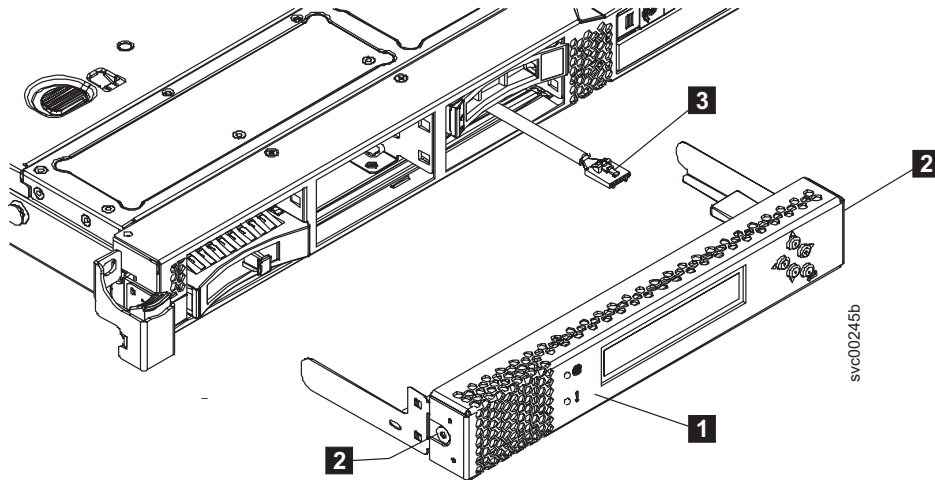

Figure 84. SAN Volume Controller 2145-CG8 or 2145-CF8 service controller (SAN Volume Controller 2145-CF8 shown)
- | 1. When the service controller, as shown by **1** in Figure 84 on page 96, is close enough to the USB cable (**3**), attach the cable to the service controller, if necessary.